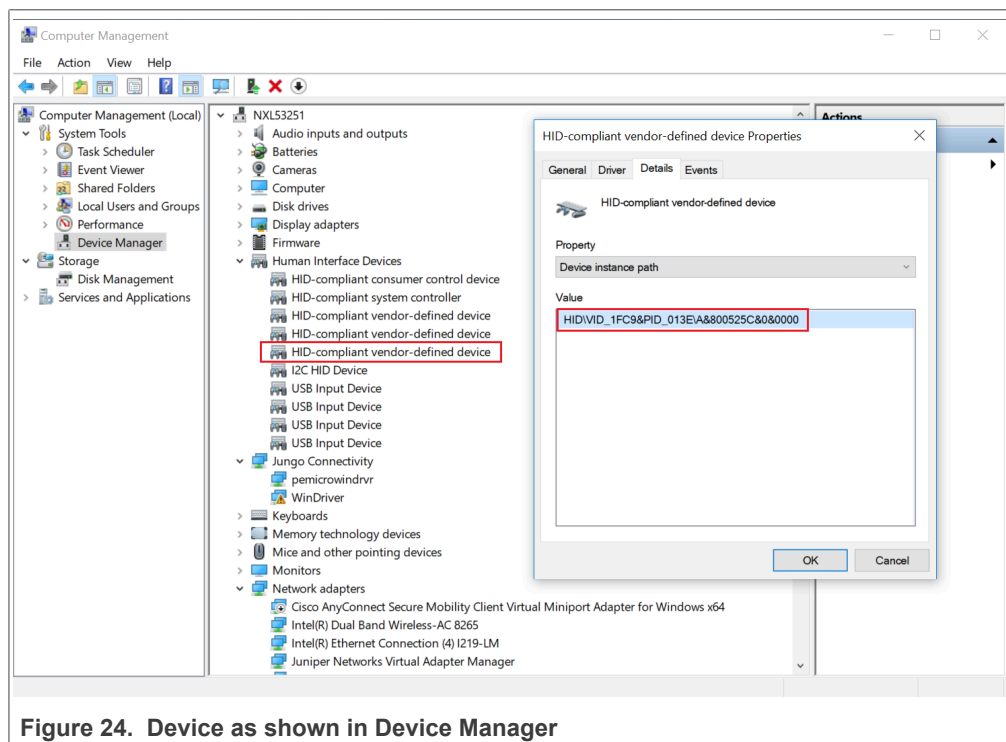

Figure 24. Device as shown in Device Manager
3. The PC recognizes the i.MX 8M Nano device as (VID:PID)=(1FC9:013E), as shown in Figure 24.